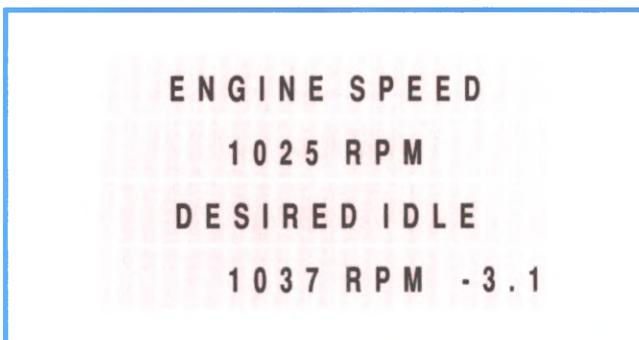

Figure 6-39, Data Sample with Time Index
- **ENTER** — this key toggles between the sample's number index and time index. The time index display gives the time in seconds, relative to the trigger sample, that the Tech 1 received the currently displayed data (figure 6-39).